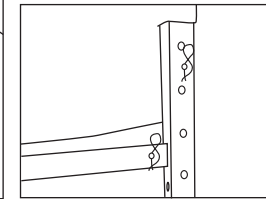

Fig 3a
4. Install cotter pin through anchor shaft to lock the puller gearbox section in place (Fig 3). Note: Puller cart anchor shaft will be positioned on the top right of the support bar for the Maxis® 3K and on the right of the main frame for the Maxis® 6K (Fig 3a).